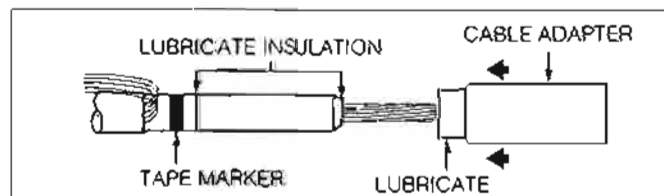

Figure 8.
- Slide small end of cable adapter over cable, using twisting motion until small end is flush with tape marker. (Refer to Figure 8.)